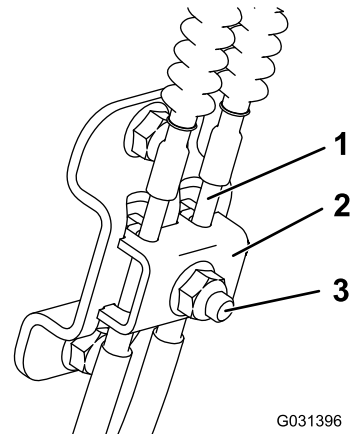

Figure 50
4. Loosen the bolt on the cable clamp on the left side of the machine (Figure 50).